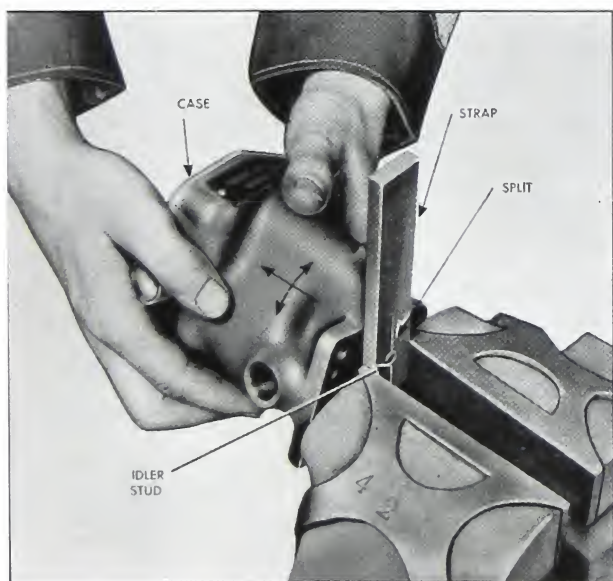

Fig. 5-61. Pulling idler stud
15. Clamp idler stud in split strap clamped in vise, as shown in Fig. 5-61. Twist and pull on case to remove idler stud.